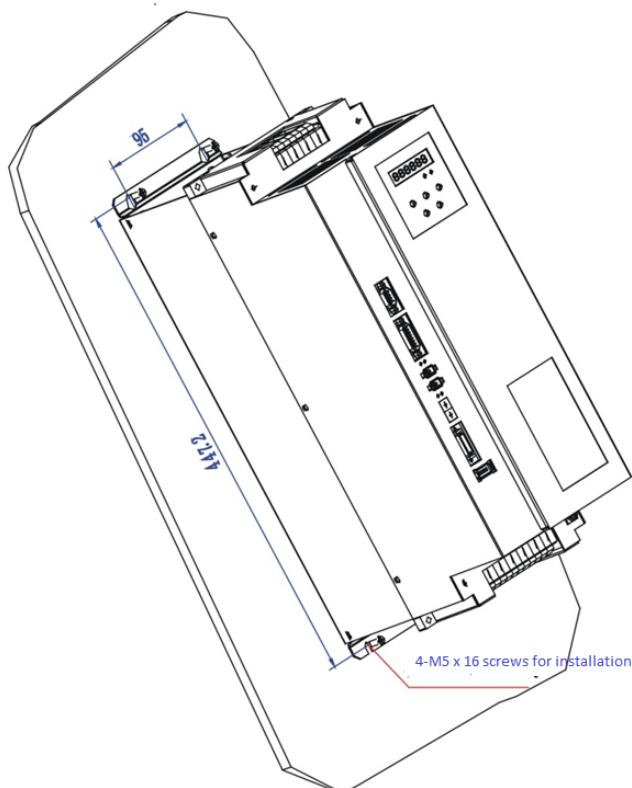

Figure 5.4.7 Wall mounting installation mode of HSV-180US-100, 150 spindle drivers (unit: mm)
- Wall mounting (direct mounting with installation auxiliary device), as shown in Figure 5.4.7.